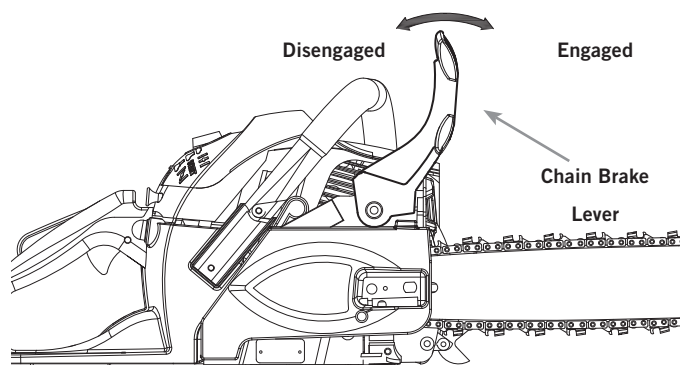

Fig. 1
2. Make sure the chain brake lever is pulled back in the disengaged position (Fig. 1).
4. While the unit is running, squeeze the throttle control to 1/3 throttle and then engage the chain brake by pushing the chain brake lever forward with the left hand (Fig. 1). The chain should stop moving abruptly. **IF...**If the chain stops moving, the chain brake is working correctly. **IF...**If the chain does not stop moving, have the unit serviced by Champion or other qualified service dealer.